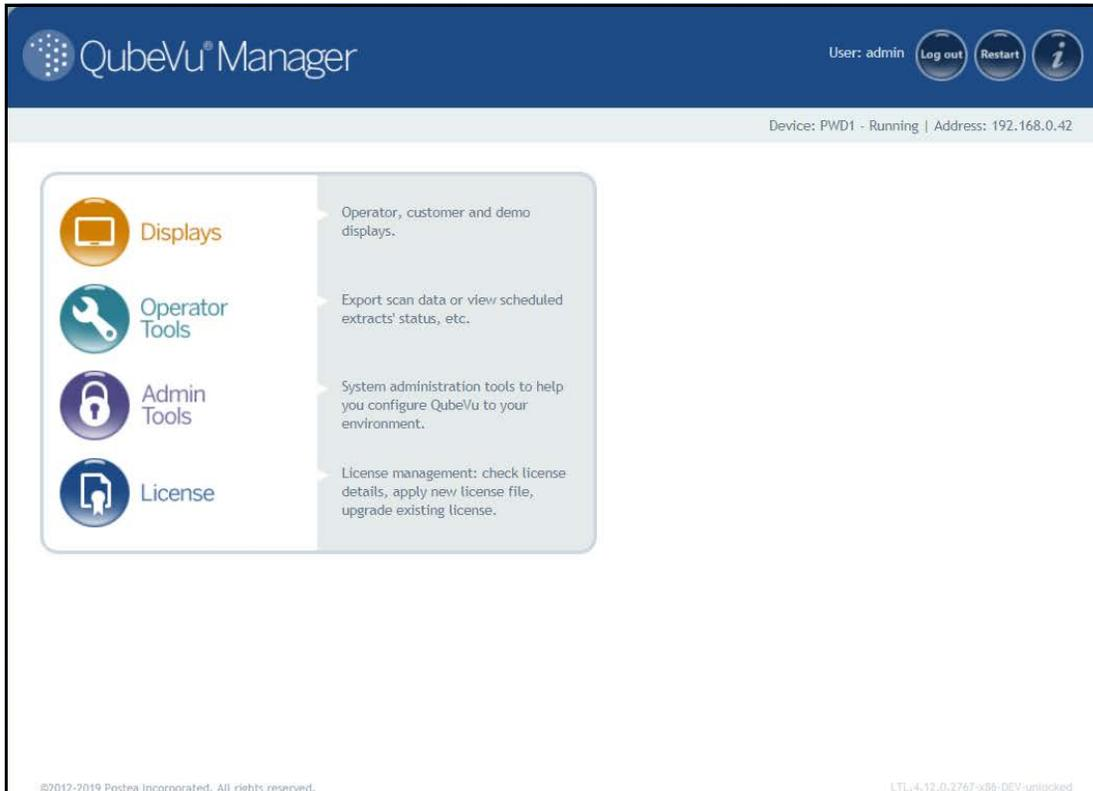

Figure 2-1. QubeVu Manager Home Page
1. Press  from the **QubeVu Manager** menu (Figure 2-1 on page 4) to enter the **Admin Tools** menu.
1. Press  **Admin Tools** from the **QubeVu Manager** menu (Figure 2-1 on page 4) to enter the **Admin Tools** menu.